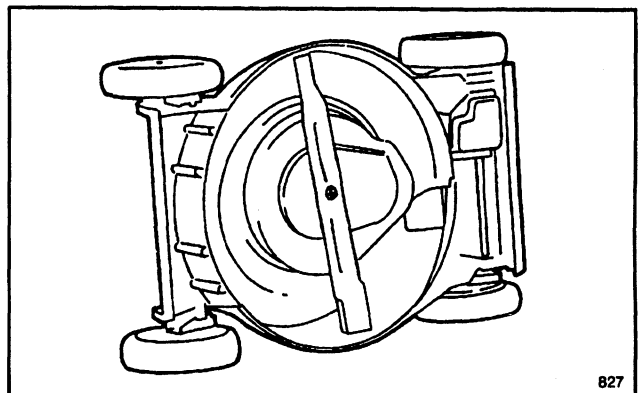

Figure 23
3. Tip mower on its right side (Fig. 23).